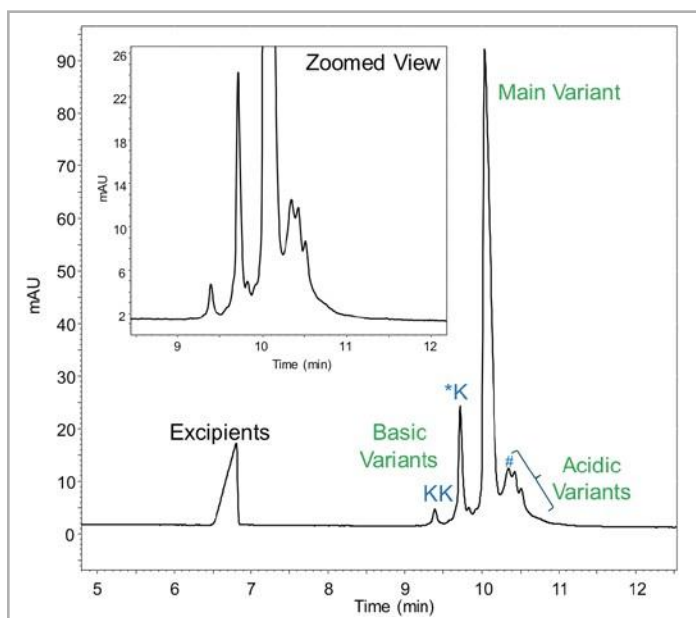

Figure 5. CZE charge profile of the NISTmAb.
CZE is a rapid and simplified approach to profile the charge heterogeneity of therapeutic mAbs. Simple sample preparation and inexpensive reagents make CZE an attractive approach for charge profile characterization. The rapid charge variant profile of the NISTmAb can be seen in Figure 5. The CZE assay resolved three distinct charge groups: the faster-migrating basic variants, the main group, and the slower-migrating acidic variants. NIST have previously identified the basic variants to be the heavy chain C-terminal lysine (K) variants.⁶ The 2K and K variants migrate fastest and separate from the main peak. The later migrating and more complex acidic variants are known to include asparagine deamidation, lysine glycation, N-terminal glutamine and sialic acid glycovariants, however, specific peaks have not yet been identified.⁷